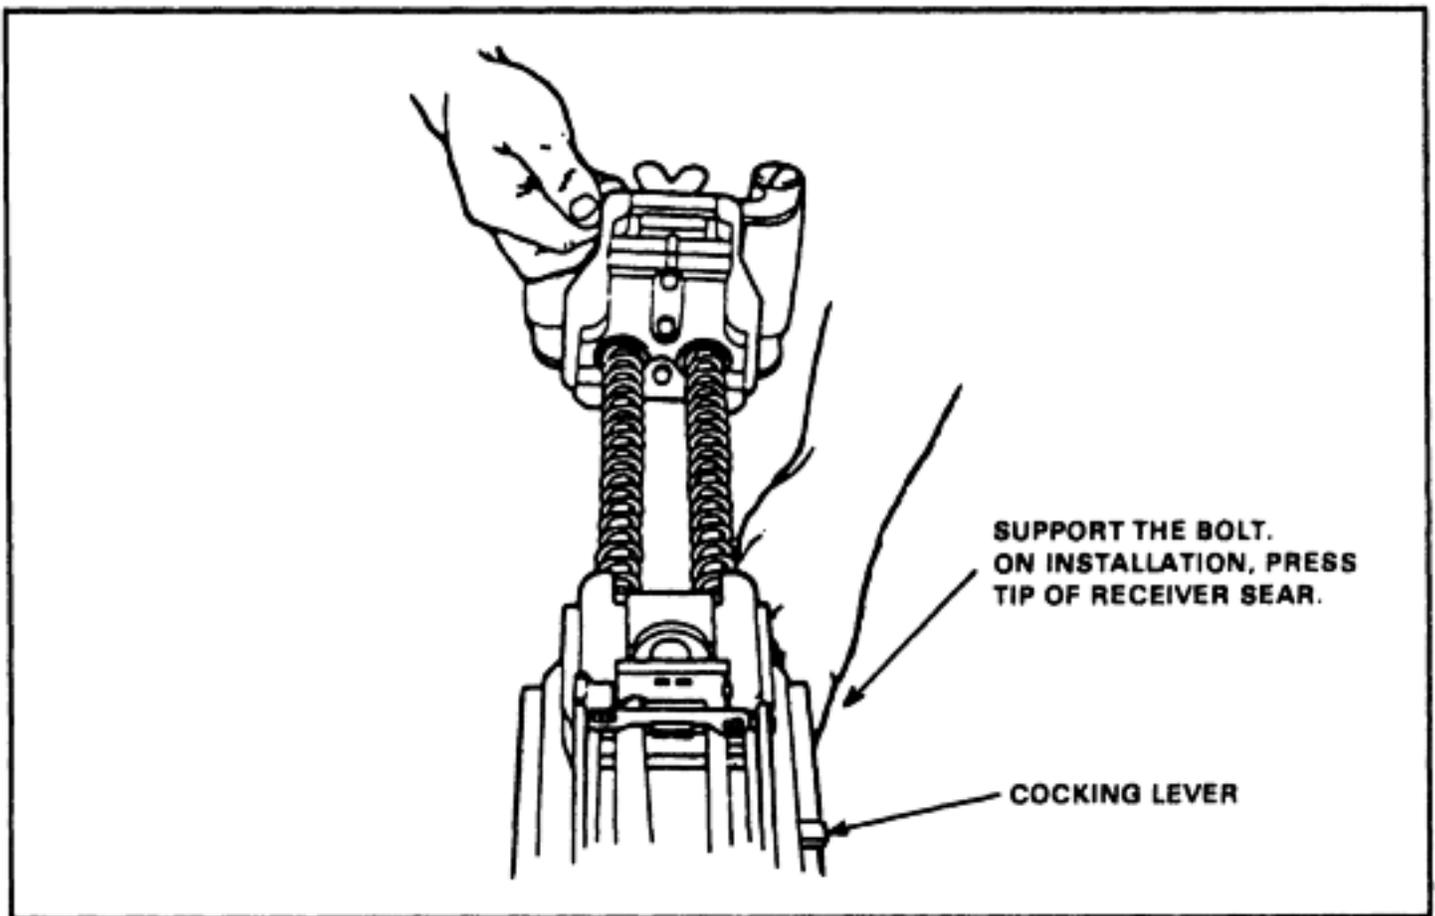

Figure 2-19. Insertion of bolt and backplate assembly.
(1) Replace the charger assemblies.
(2) Replace the round-positioning block.
- (3) Replace the ogive plunger.
- (4) Replace the alignment guide.
- (5) Replace the primary drive lever and vertical cam.
- (6) Attach the sear assembly: depress the sear spring and turn the assembly 90 degrees toward the barrel's center line until the assembly locks into position.
- (7) Insert the bolt and backplate assembly.
- (a) Ensure that the cocking lever is forward and insert the bolt and backplate assembly into the receiver (Figure 2-19).